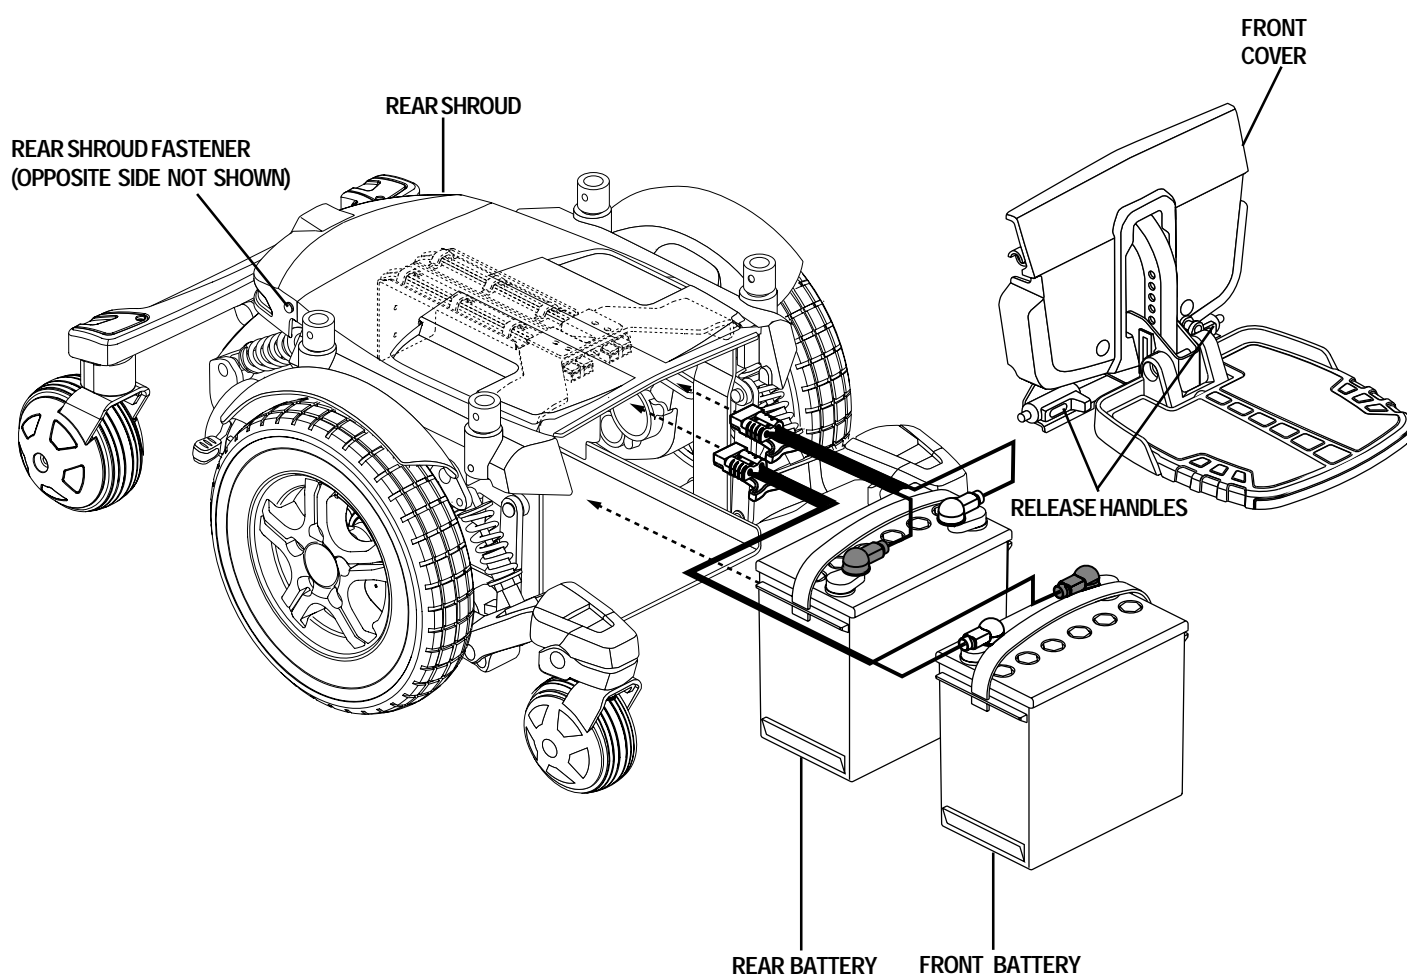

Figure 33. Battery Installation
3. Remove the front cover and foot platform by squeezing the release handles (see figure 33) and lifting the foot platform bracket up and out.
7. Connect the battery harness to the front battery according to the battery wiring diagram. See figure 33.
8. Connect the battery harness to the rear battery according to the battery wiring diagram. See figure 33.